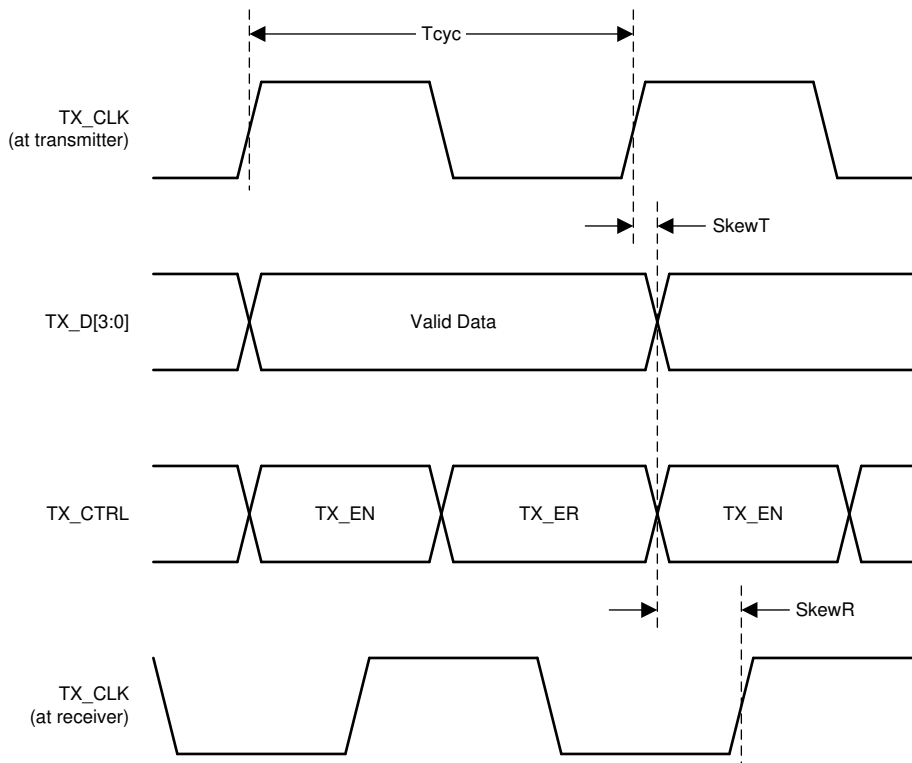
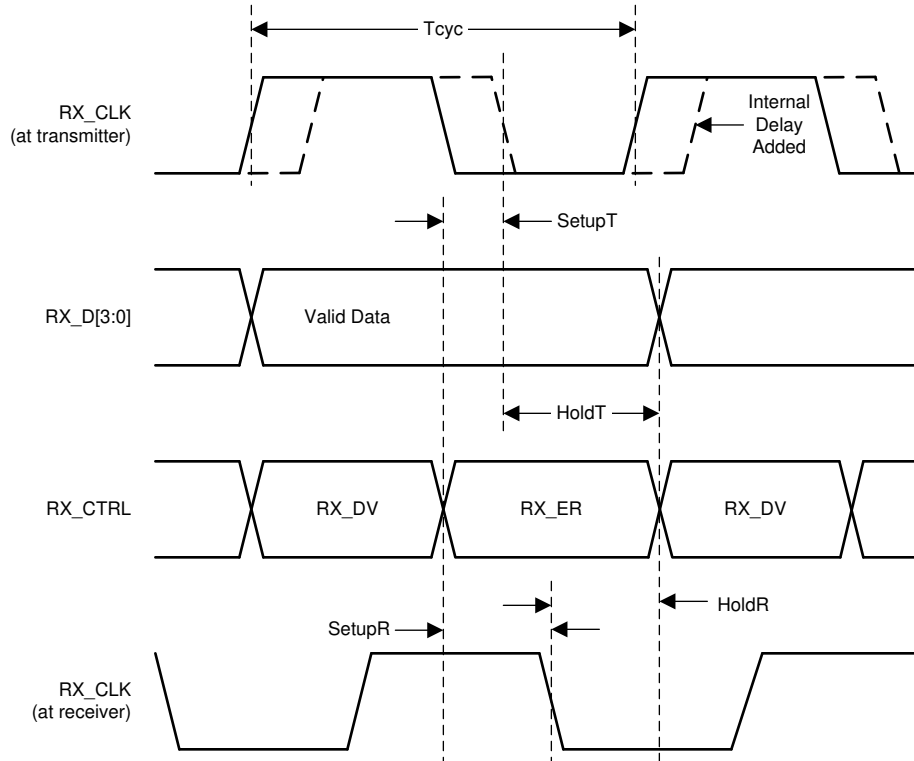

Figure 7-11. RGMII Transmit Timing
Figure 7-12. RGMII Receive Timing
- (1) Ensured by production test, characterization or design.
(2) When operating without RGMII internal delay, the PCB design requires clocks to be routed such that an additional trace delay of greater than 1.5 ns is added to the associated clock signal.
(3) Device may operate with or without internal delay.
(4) The duty cycle may be stretched or shrunk during speed changes or while transitioning to a received packet's clock domain as long as minimum duty cycle is not violated and stretching occurs for no more than three Tcyc of the lowest speed transitioned between.
(5) See Figure 7-11 and Figure 7-12.